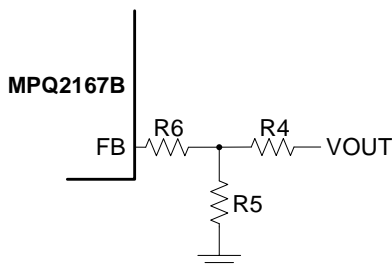

Figure 3: Feedback Network
The external resistor divider connected to FB sets the output voltage (see Figure 3). The feedback resistor R1 must account for both stability and dynamic response, so it cannot be too large or too small. R1 is estimated to be 100kΩ. Calculate R2 with Equation (2):
Using a T-type feedback network is highly recommended (see Figure 3).